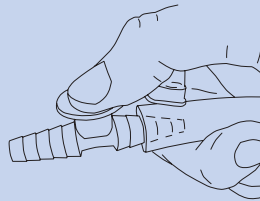

Fig. 25
2. Keep the opening of the suction tube (fig. 2(J)) and the fingertip (fig. 25) shut.